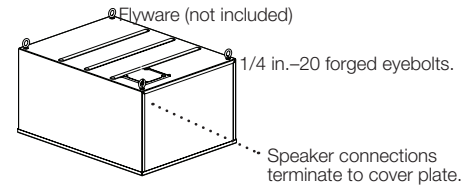

Fig. 2: Suspended into Rigid or Tile Ceiling
- 2. Suspended into Rigid or Tile Ceiling (Fig. 2):** Hang the system using the installed forged eyebolts and flyware (by others) so that it is suspended into a rigid or tile ceiling.